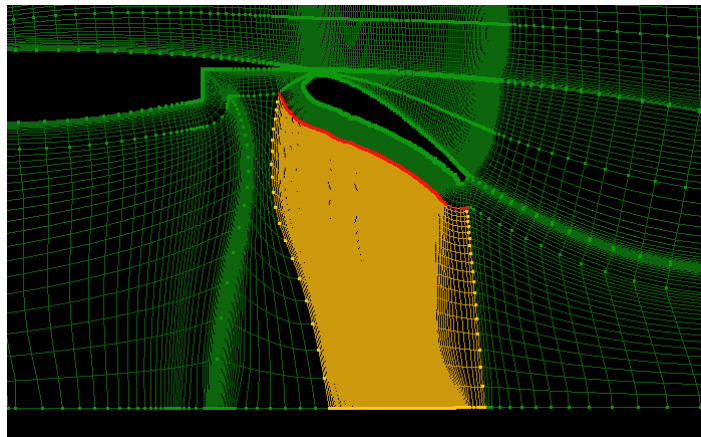

Figure 35. Grid for near field block regenerated using different gridding parameters.
- From the main menu select **Boundary→Generate Grid→Current Block**. The grid should look similar to that shown in Figure 35.